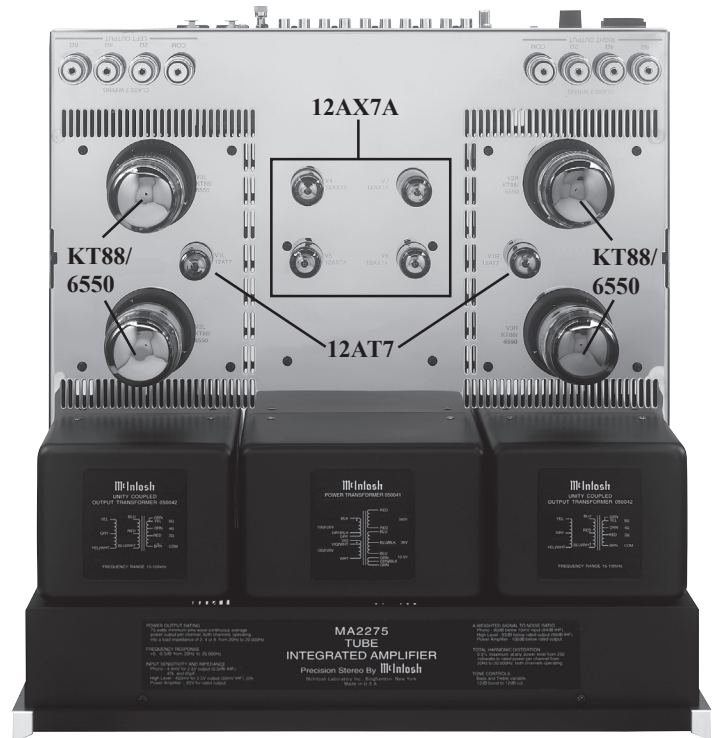

Figure 5
5. Repeat the above steps for the remaining three 12AX7A Tubes. Refer to figure 5.
9. Repeat steps 6-9 for the remaining 12AT7 Tube. Refer to figure 5.